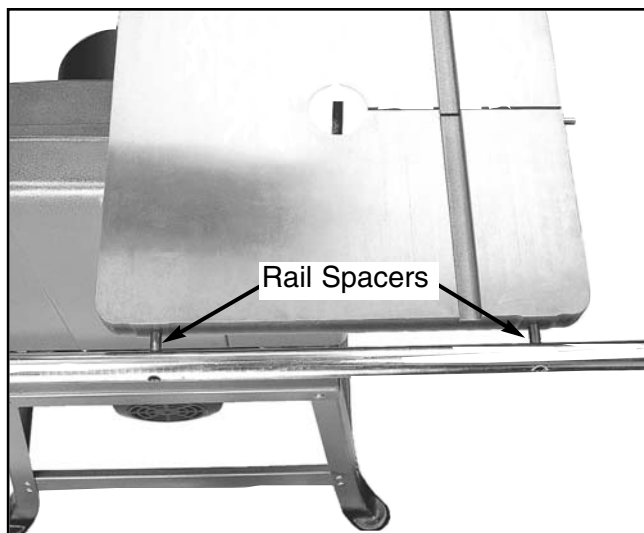

Figure 13. Fence rails properly secured to table.
1. Secure the fence rails to the table with the four (4) $\frac{1}{4}$ "-20 x $1\frac{1}{4}$ " cap screws and spacers provided (**Figure 13**).